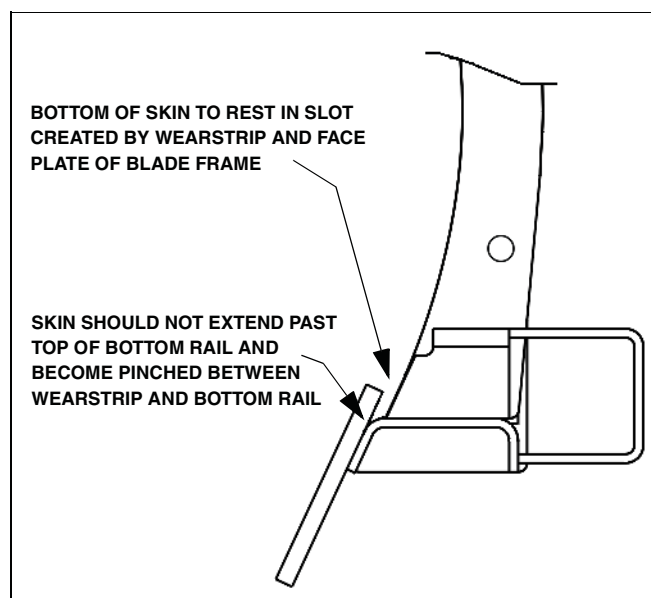

Fig. 1-1
6. When polycarbonate sheet is tight against frame, install the wearstrip and wearstrip bolts. Make sure the sheet is in proper location. See fig. 1-1.